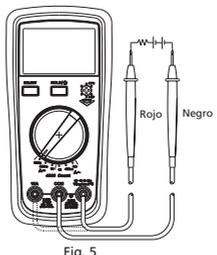

Fig. 5
9. AC CURRENT MEASUREMENT (see fig. 5)